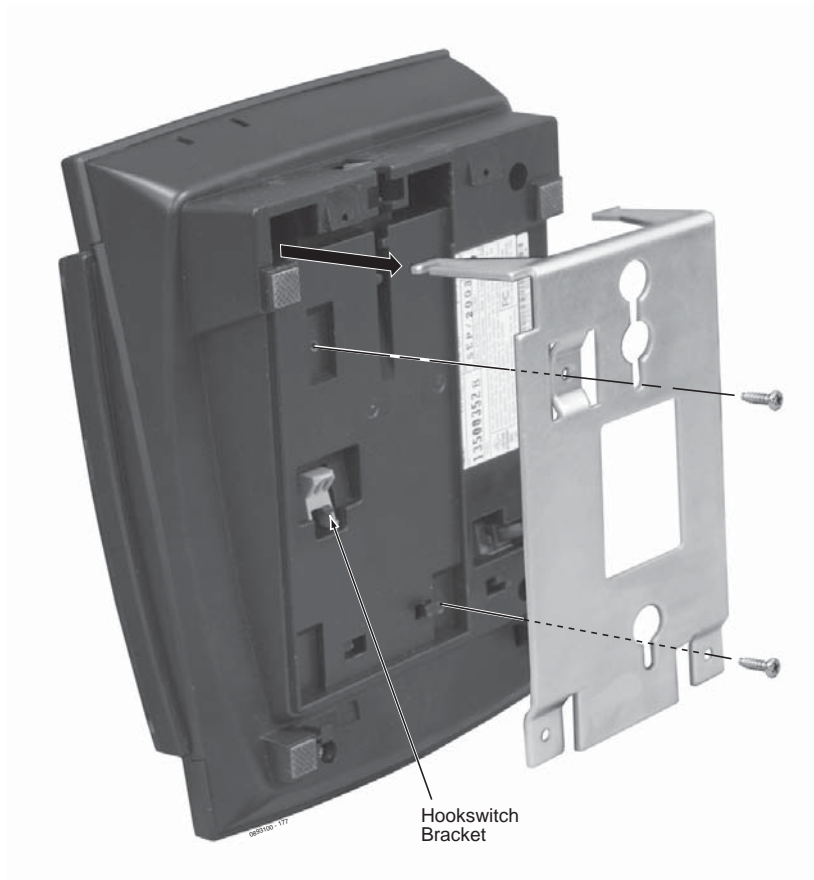
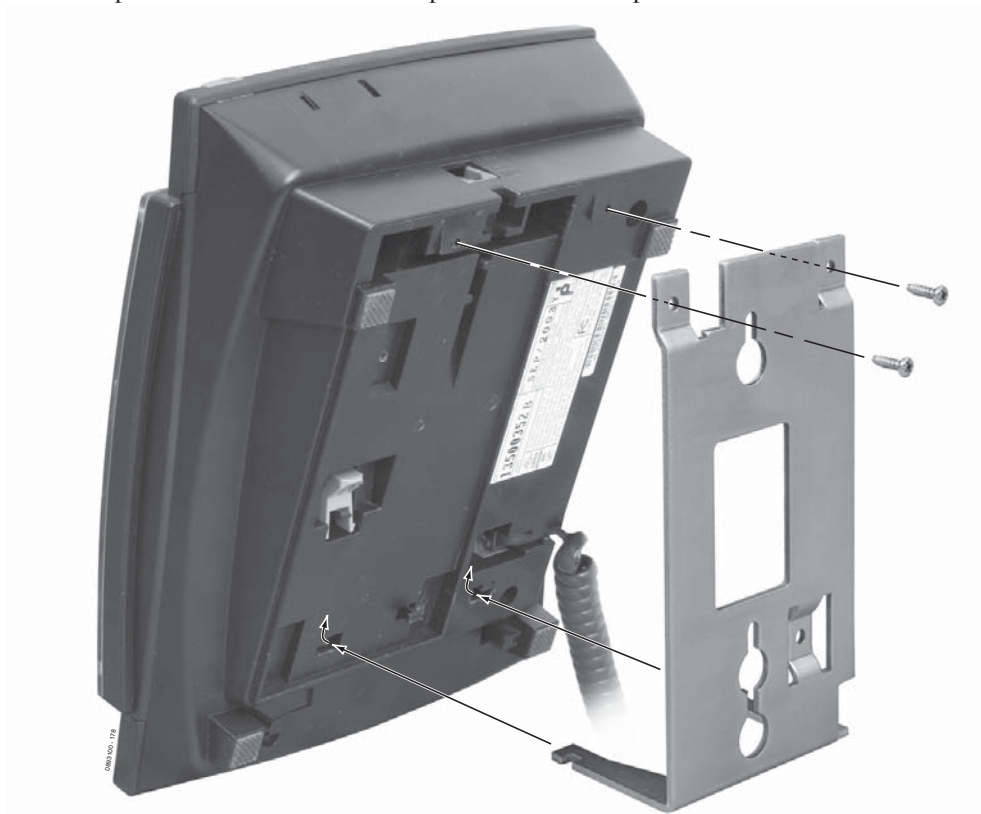

Figure 4-92: REMOVING THE WALL-MOUNT BRACKET
Figure 4-94: ATTACHING THE BRACKET
(Figure 4-92 - Figure 4-94)
1. Unscrew the two screws securing the bracket to the bottom of the 2-button phone and remove the bracket. Refer to Figure 4-92.
4. After removing the integrated wall bracket from the bottom of the 2-button telephone (Figure 4-92), position the bracket as shown below - the legs of the bracket should slide into the slots located near the bottom edge of the phone, then be pushed up slightly to secure the bottom of the bracket.